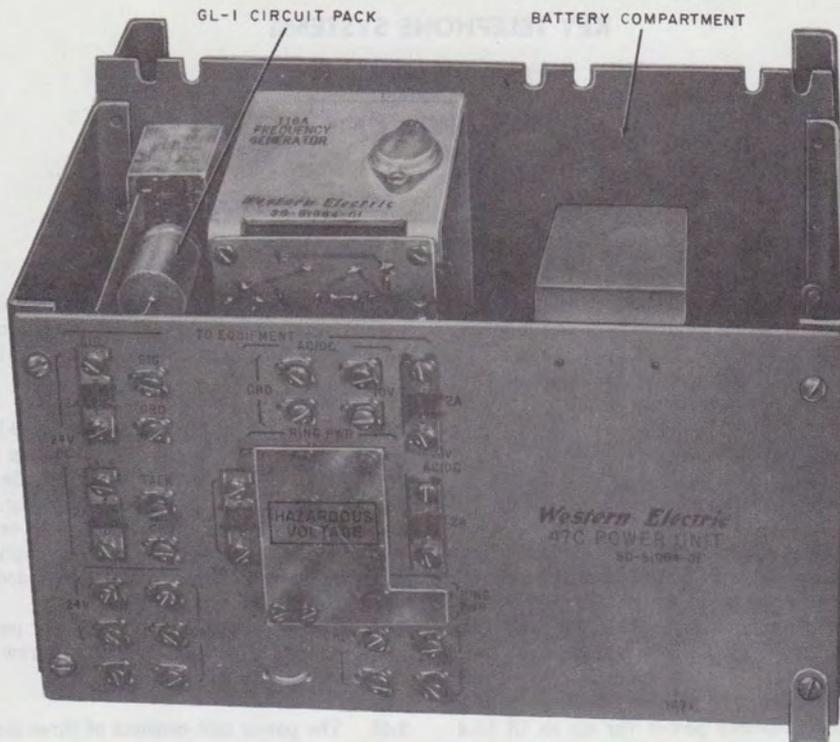

Fig. 1—47C Power Unit
1.01 The 47C power unit (Fig. 1) provides emergency power to maintain talk and signal voltages, lamp voltages, and ringing voltage in key telephone systems during commercial power failures.
**3.08** Ensure that power unit is properly fused. See Table A and Fig. 1 for fusing.